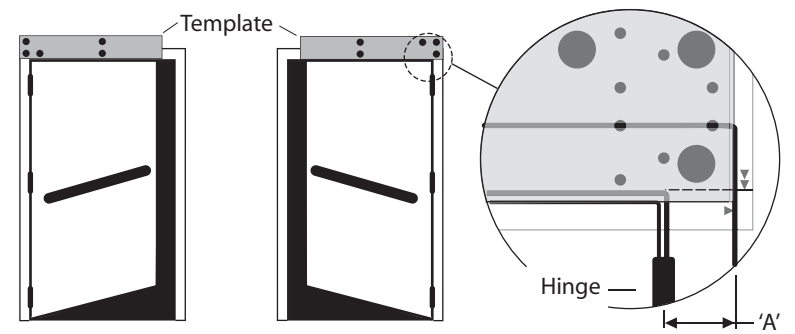

Figure 1 — Template orientation and alignment, bottom-side mounting shown
- 1 Determine whether to mount the base on the inside or outside. Also determine the hand of door. Make sure to place the hinge side of the template to the hinge side of the door. See Figure 1.
- 5 Position and place the template to the frame by aligning the horizontal and vertical lines to the door frame as shown in figure 1. Reposition the template if necessary. Make sure that the template lays flat across the frame.